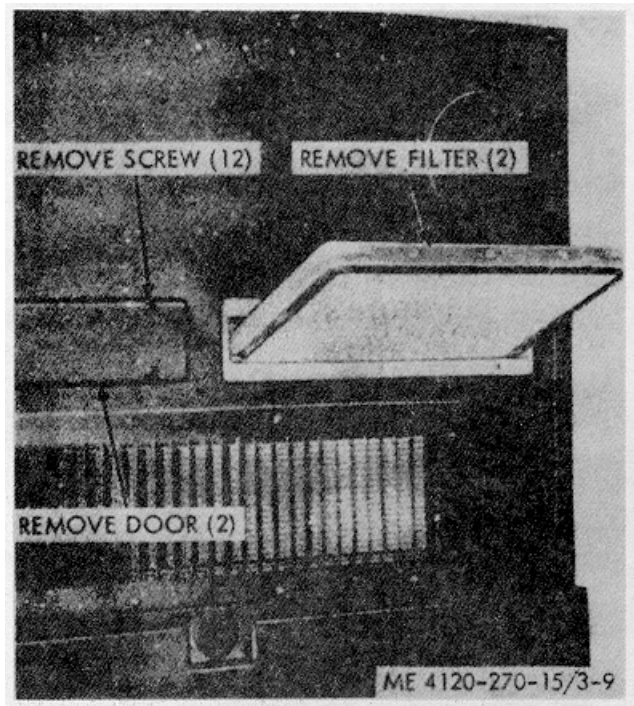

Figure 3-9. Air conditioning filter, removal and installation.
- a. Removal. Refer to figure 3-9 and remove the air conditioning filters.
- b. Installation. Clean or replace air filters. Refer to figure 3-9 and install the air conditioning filters in reverse order of removal.